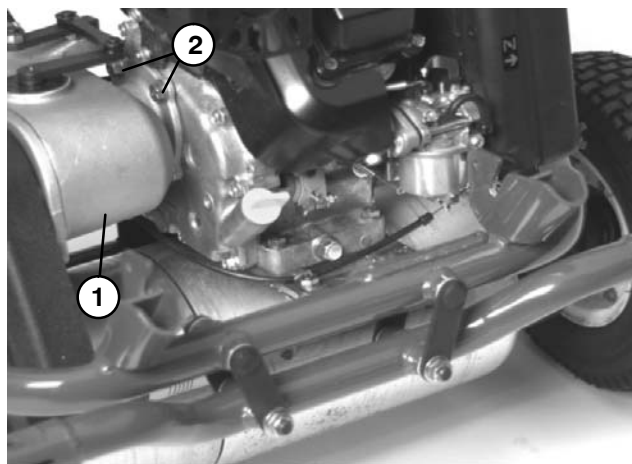

Figure 35
8. Loosen and remove four flange nuts that secure gearbox to engine (Fig. 35).
6. Rotate engine crankshaft slowly with recoil starter to align crankshaft gear with gearbox input gear. Align gearbox flange onto setscrews. Install and tighten four flange nuts that secure gearbox to engine (Fig 35).